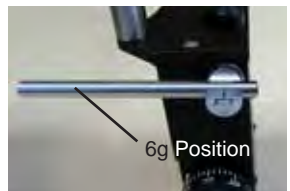

Figure CA-11 Set to 6g
14. Set the calibration rod to position 6 so that the longer portion of the rod is pointing towards the examiner. Refer to Figure CA-11.